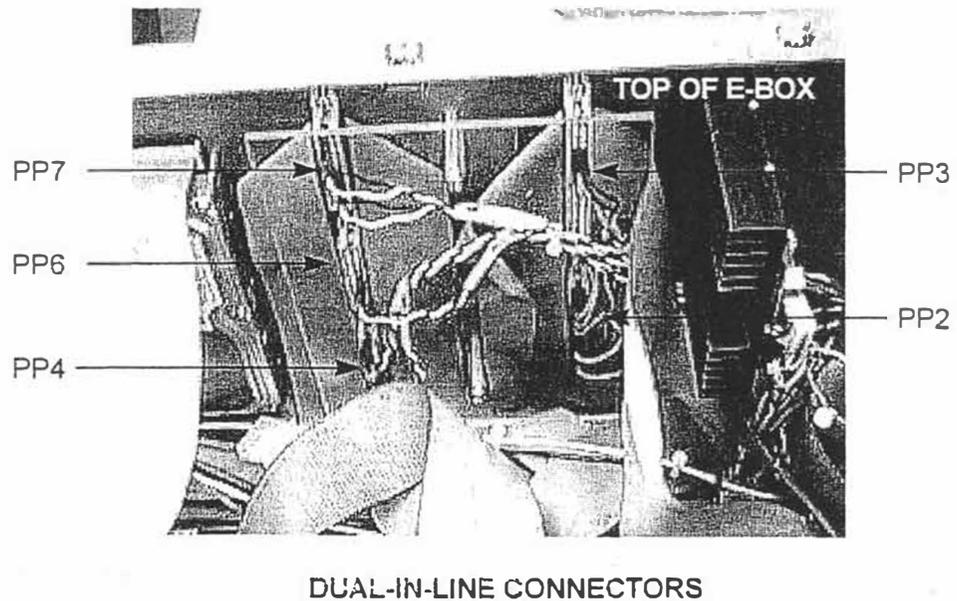

FIGURE 1.3.4B - LOCATION OF IN-LINE CONNECTORS
3. To trace the limit signals down to the E-Box, use the following table to locate limit switch signals on the dual-in-line connectors (see figure 1.3.4B, page 14):
The input signals to the PAB are from the MEI board via the ribbon connector. Signals are tapped out of the ribbon cable by the dual-in-line connectors shown in the figure below. The following table below describes where to find the signals on these connectors. The various signals per each motor can be found per the following tables 1.3.4A ,Band C, and figure 1.3.4B: